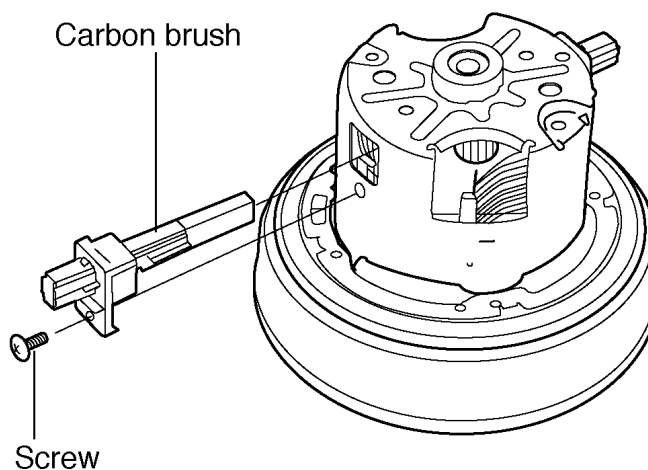

fig.10
5. Insert the new carbon brush unit into the motor housing and refasten the screw. (Fig. 10)